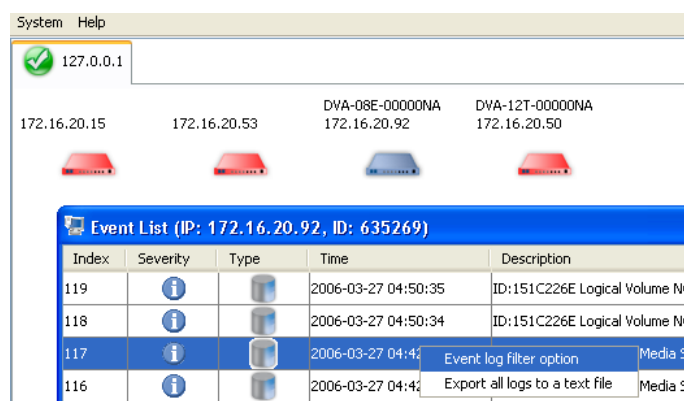

Fig. 14.8 Event List Options
2. Right-clicking the system icon will also provide you with two (2) options - filtering the event log and exporting the event log to a text file. (See Figure 14.8)